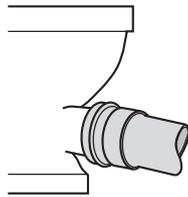

Fig.34c Connecting pan spigot
Step 4 – Push together (Fig.34c)